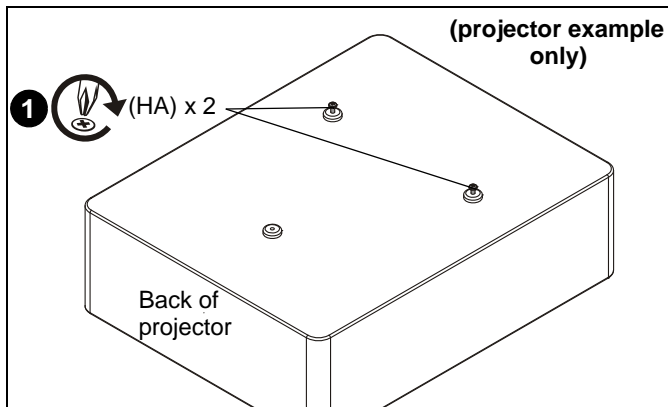

Figure 13
1. Insert and slightly tighten two M4 x 8mm Phillips pan head screws (HA) into the projector threaded inserts. (See Figure 13)